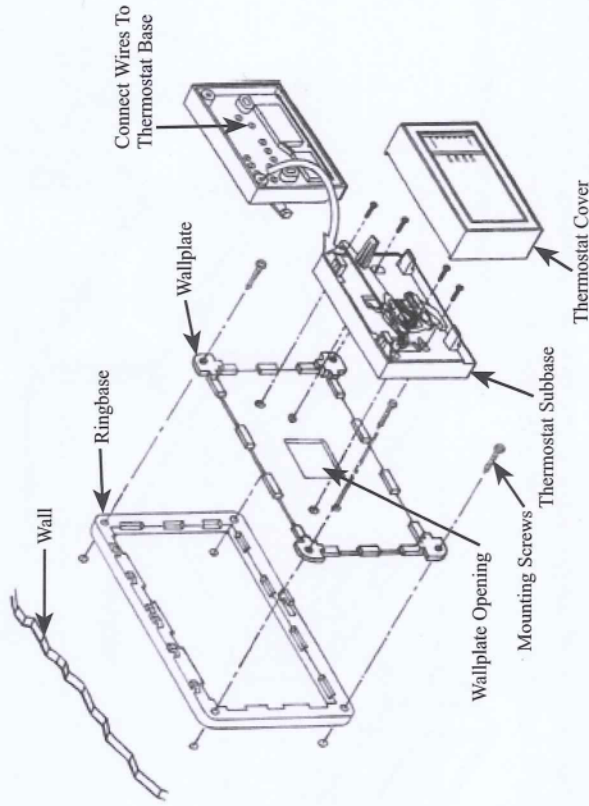

Figure 5 – Wall Mounting Front Wired Subbase
BACK WIRED THERMOSTAT (Figure 5)
- Mount the ringbase on the wall using four #6 x 1/4" sheet metal screws and four plastic anchors if needed. See Figure 5. **Be sure screws are securely fastened.**